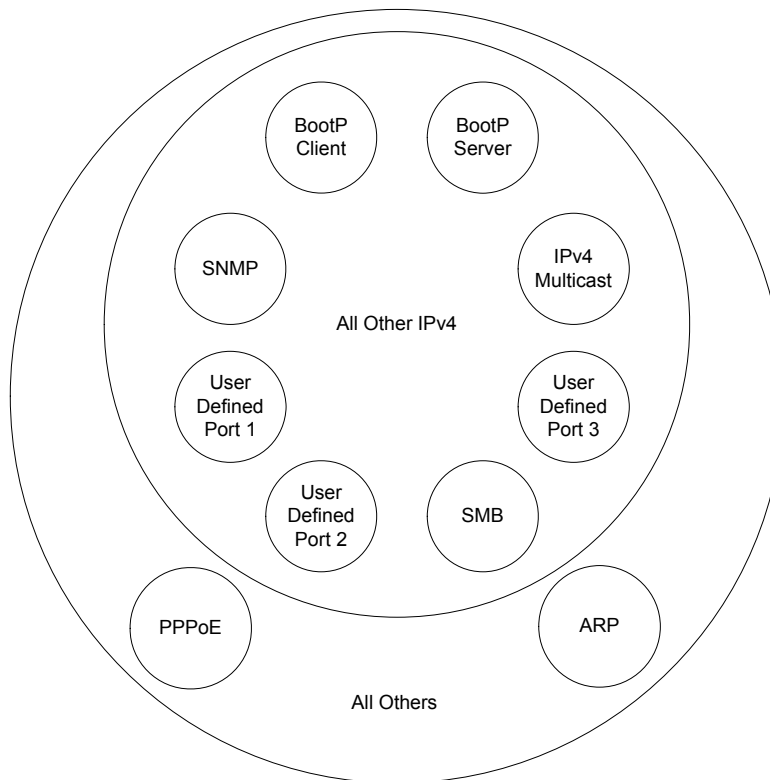

Figure 141: Categorical protocol filtering
- All other IPv4 traffic (see Figure 141)
- All others (see Figure 141)